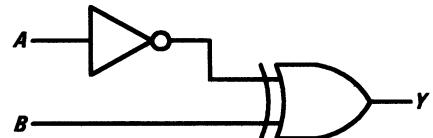

Figure A2.23
47. Redraw Fig. A2.23 using BS symbols. [Page 164]